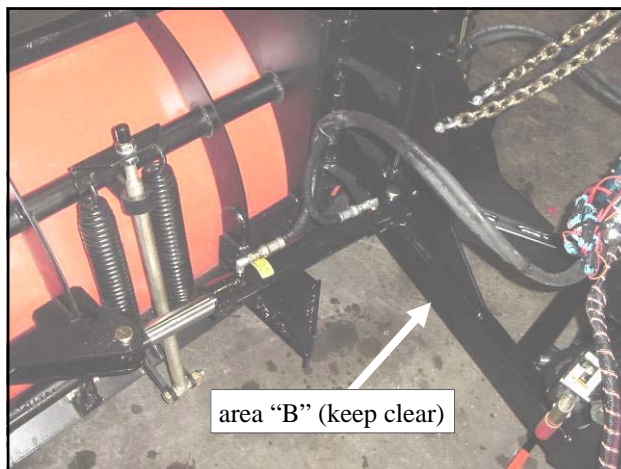
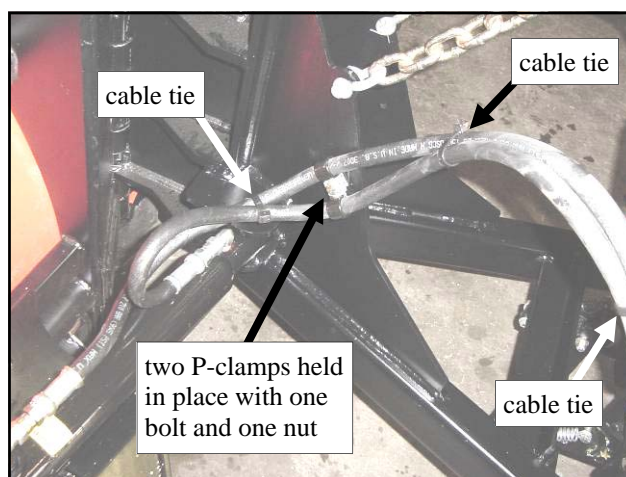

Fig. 8.5 (view of driver's side)
Fig. 8.5.1 (view of driver's side)
8.5 Per fig. 8.5, the hydraulic hoses are to be P-clamped and cable tied up and out of the way as shown. Note: area "B" where the arrow is pointing is where the angle stop weldment will rotate to and bottom out on the outside surface of the A-Frame. **Keep this area clear.** Per fig. 8.5.1, use two 5/8" diameter P-clips, one 1/4-20 x 3/4" long hex head bolt, and one 1/4-20 locknut to attach the two driver side hydraulic hoses to the existing hole in the upright portion of the A-Frame as shown. Note the orientation of the hoses in reference to area "B" (up and away from area "B"). Also per fig. 8.5.1, install 3 cable ties around the two hoses to keep them neatly together as shown. Repeat for passenger's side.